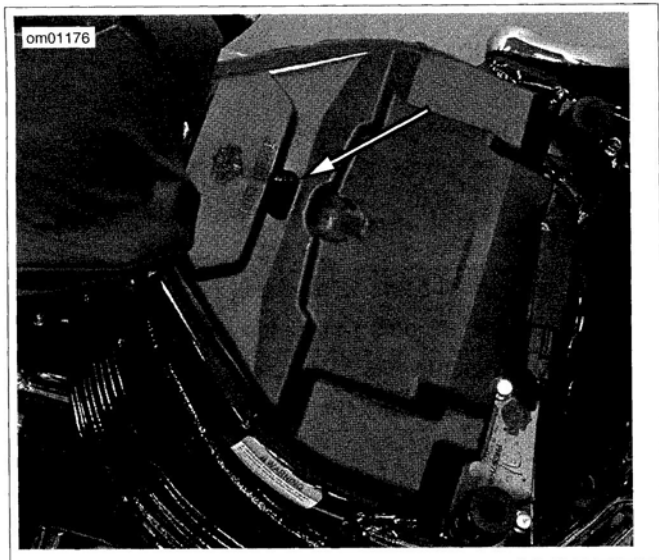

Figure 1-58. Battery Cover (Removal Slot Shown): FXCWC Models
2. **FXCWC models:** see Figure 1-58. Remove the battery cover.